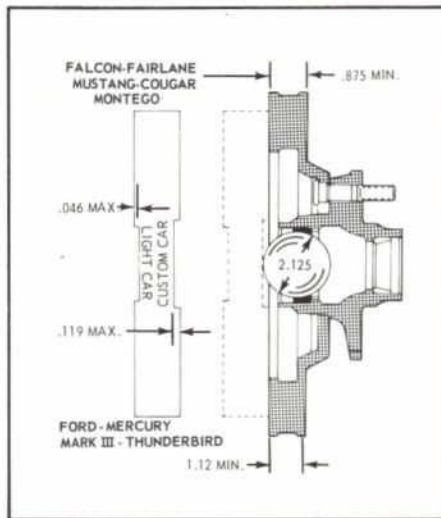

Figure 24—Floating Caliper Rotor Refinishing Limiting Dimensions
Controlled dimension notches are machined in the opposite edges of the gauge bar (Fig. 24) and identified Custom Car (Ford, Mercury, Continental Mark III and Thunderbird) and Light Car (Montego, Fairlane, Falcon, Mustang and Cougar).
3. Position gauge bar across the rotor inner braking surface and over the gauge ball (Fig. 24). Measure the distance between the gauge bar and ball. This equals the maximum amount of stock that can be removed. *If the gauge bar touches the ball, no additional stock may be removed. If the gauge bar is below the top of the ball, replace the rotor.*
4. Minimum rotor thickness dimensions are shown at both ends of the rotor in Figure 24. Rotors having a thickness less than these specifications must be replaced, regardless of the ball and gauge bar measurements.